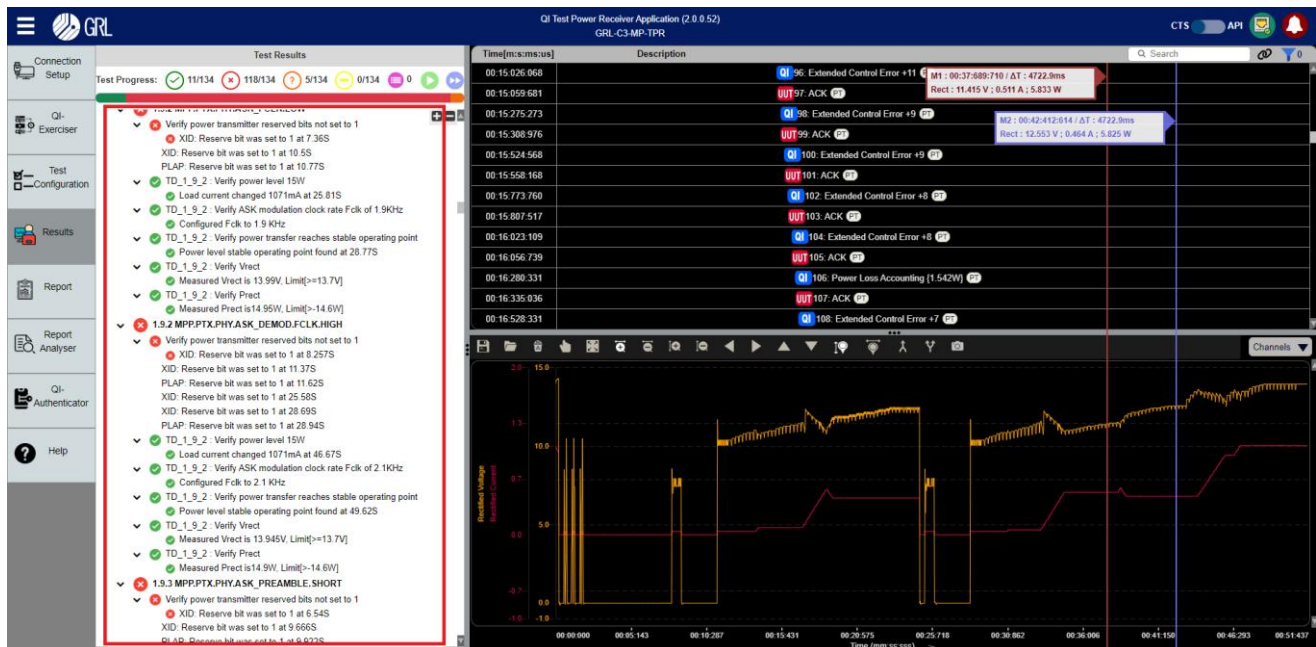

FIGURE 8.32: UPLOAD PROJECT— #4
4. Click on the **Upload** button and the selected project file will be loaded as shown in the Figure 8.32 example below. The user can now proceed to access/configure the project.